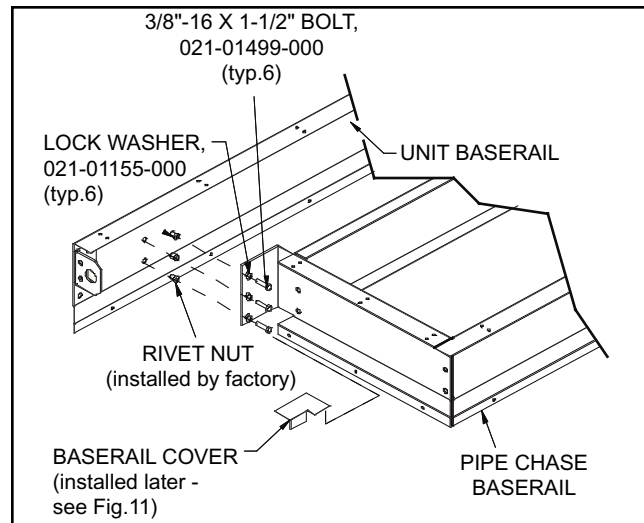

FIG. 3 – PIPE CHASE BASERAIL TO UNIT BASERAIL INSTALLATION (When Purchased)
- If there is a baserail, attach the baserail of the pipe chase to the baserail of the air handler. Use 3/8" bolts & lock washers provided, placing bolts through the pipe chase baserail brackets into the threaded holes in the air handler baserail (*see Fig. 3*).